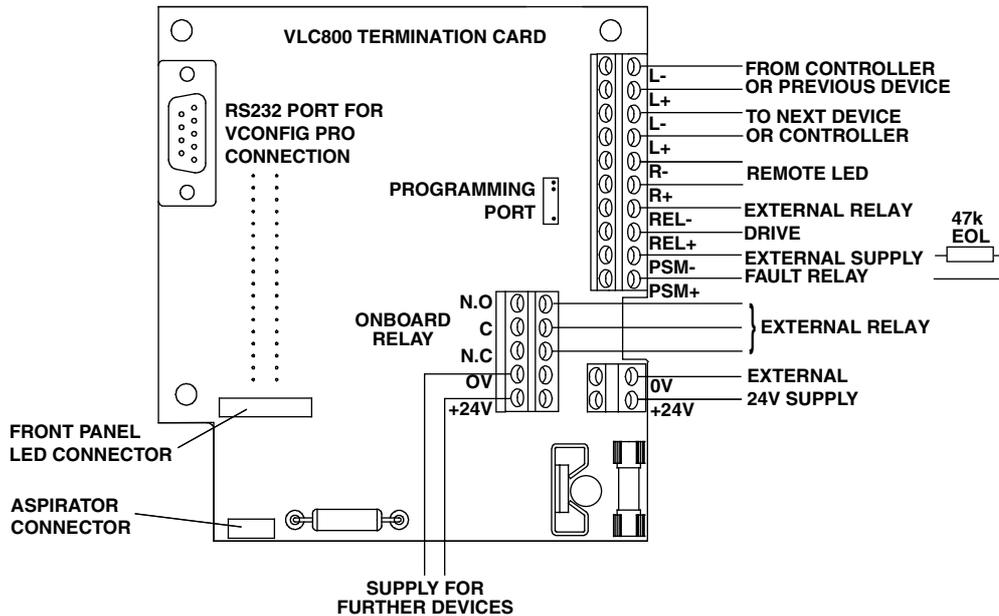

Fig. 10 Simplified Wiring Diagram
8. WIRING NOTES (FIG. 10 REFERS)